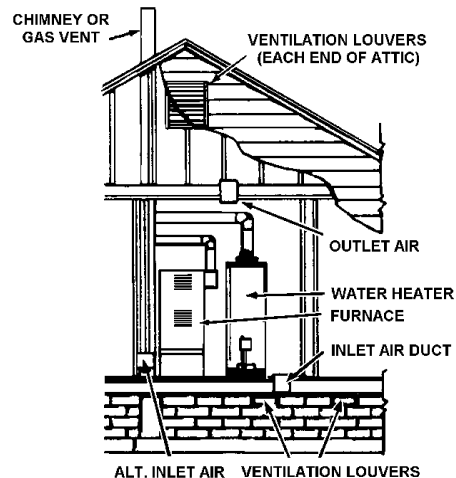

FIGURE 11.
- When directly communicating with the outdoors, each opening shall have a minimum free area of 1 square inch per 4,000 Btu per hour (5.5 cm²/kW) of total input rating of all equipment in the enclosure. See Figure 11.